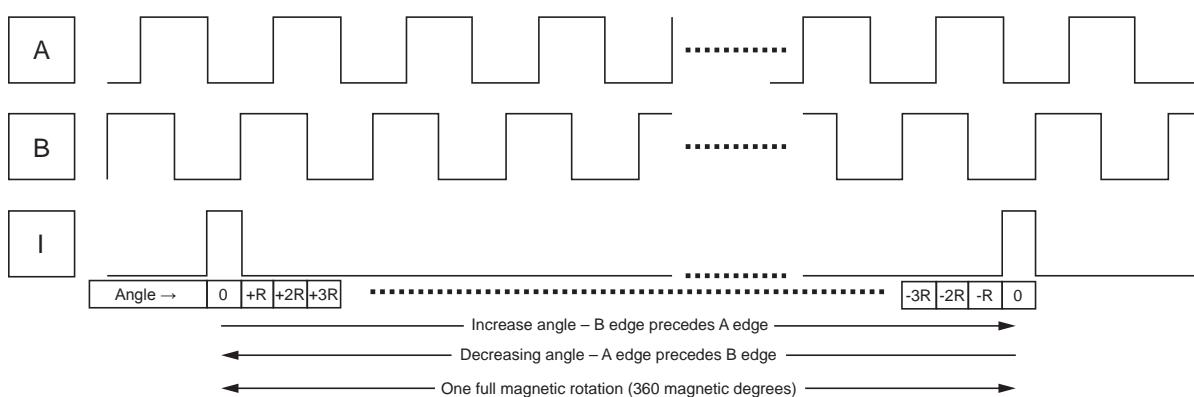

Figure 5: One Full Revolution
The AAS33001 offers an incremental output mode in the form of quadrature A/B and Index outputs to emulate an optical or mechanical encoder. The A and B signals toggle with a 50% duty cycle (relative to angular distance, not necessarily time) at a frequency of $2N$ cycles per magnetic revolution, giving a cycle resolution of $(360 / 2^N)$ degrees per cycle. B is offset from A by $\frac{1}{4}$ of the cycle period. The I signal is an index pulse that occurs once per revolution to mark the zero (0) angle position. One revolution is shown in Figure 5.